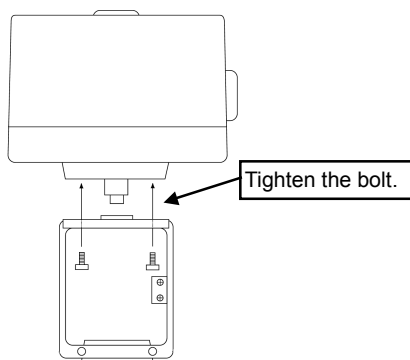

Figure 3
- 1 The bolt has a hexagonal hole (M10 x 25). Install the yoke on the actuator using a matching wrench. The actuator can be installed in any direction in 90-degree increments (Figure 3).